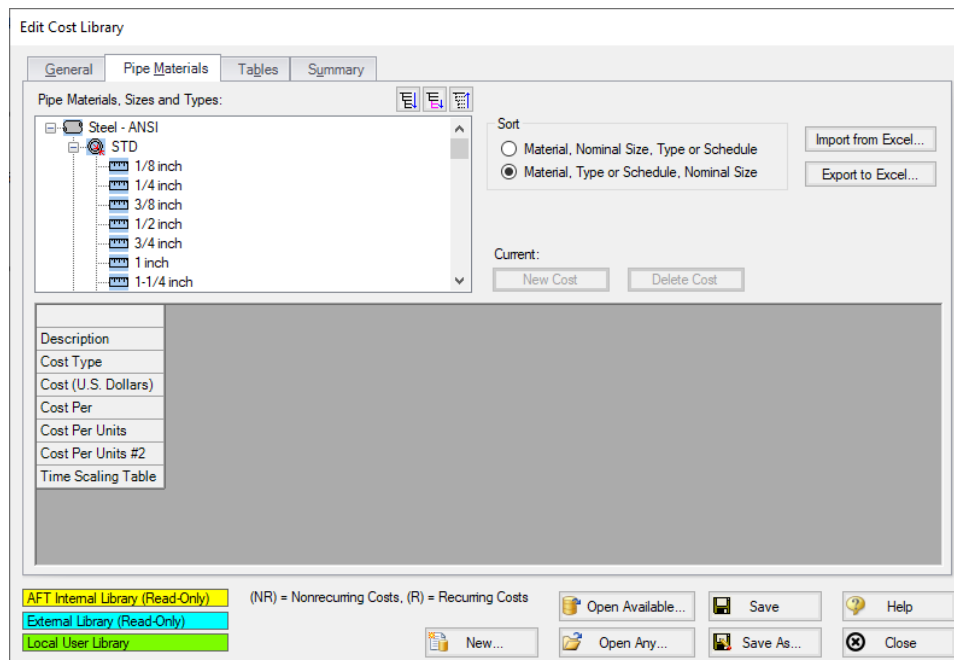

Figure 7: Pipe Materials tab in the Cost Library window showing the properties for the currently selected pipe
7. Expand the Steel - ANSI list, then expand the STD list (Figure 7).
If a size from the list is selected, the hydraulic diameter can be viewed, along with a summary of the material, size and type. The New Cost button will also become active (Figure 7). There are a few methods available when adding the pipe costs. We could individually add the Material and Installation costs for each pipe size by selecting each size from the pipe materials list, then using the New Cost button to add these costs to the table individually. Alternatively, the pipe costs can be entered into a template in excel, then imported to the Cost Library all at once.